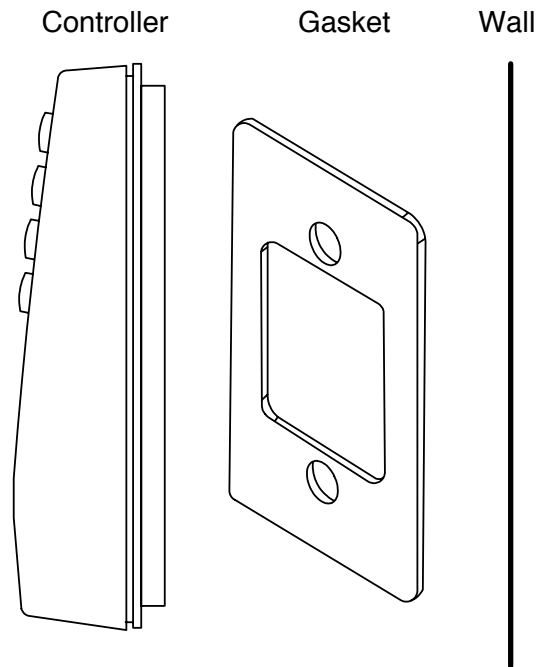

Figure 3 Gasket Installation/Exterior Applications
4. Secure the backplate to the single-gang box by inserting/tightening two screws into the two single-gang box holes. For exterior applications, install the supplied gasket between the WM800 backplate and wall (Figure 3).